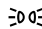

Fig. 101 Instrument panel: light panel.
- Switch on the ignition and select mode **AUTO** on the headlight control >>> Fig. 101.
- Switching off mode **AUTO** on the headlight control >>> Fig. 101.